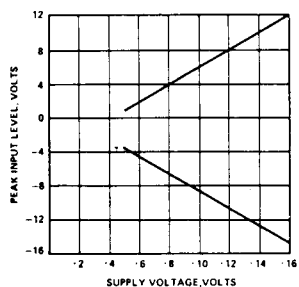

Figure 10. Multiplier Input Dynamic Range vs Power Supply
**INPUT DYNAMIC RANGE:** The maximum peak signal which can be applied to the X or Y inputs for a given supply voltage without impairing linearity. (See Figure 10).